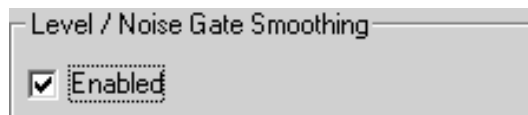

Figure 16: Level/Noise Gate Smoothing
10. If abrupt audio level changes occur as the noise gate opens and closes, either reduce the Range value or activate **Level/Noise Gate Smoothing** by clicking the box next to it on the **Headset Options** screen (see Figure 16). Activating this feature smooths out abrupt audio level changes. Again, you can hear the effect of Noise Gate Smoothing in your headphone.
When you receive your beltpack, the Level/Noise Gate feature is not activated. To activate this feature, click the box next to Level/Noise Gate Smoothing on the Headset Options screen, as shown in Figure 16.